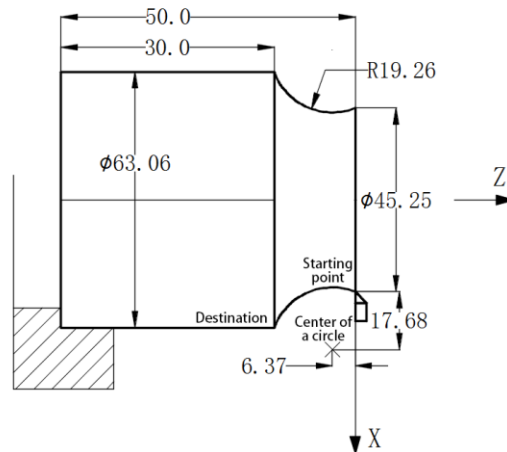

Figure 3-8
- Example: Arc program code for cutting from diameter $\Phi 45.25$ to $\Phi 63.06$, Fig. 3-8